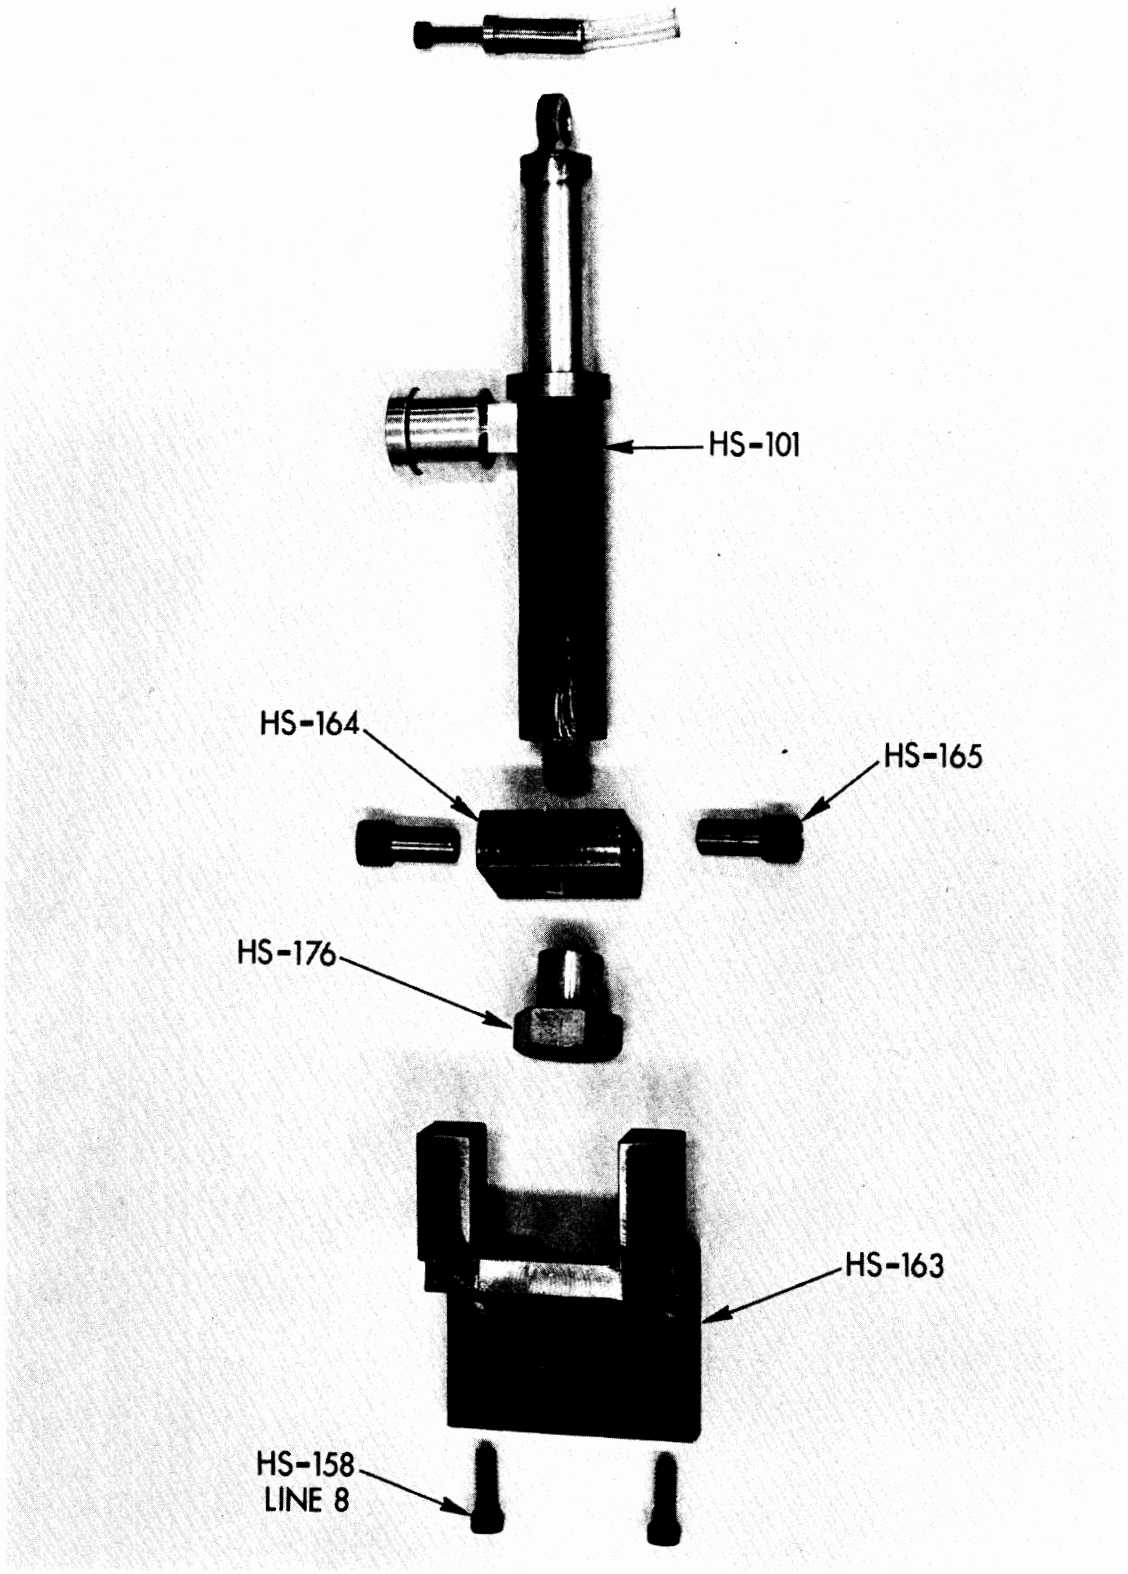

FIGURE 5
5.) Loosen the damper nut, HS-176, which holds the damper to the damper pivot block, HS-164, rotate the damper 180 degrees, and retighten the damper nut. This is to reposition the damper accumulator so it still is above the damper when reinstalled on the opposite side of the thorax. Reference Figures 5 and 6.